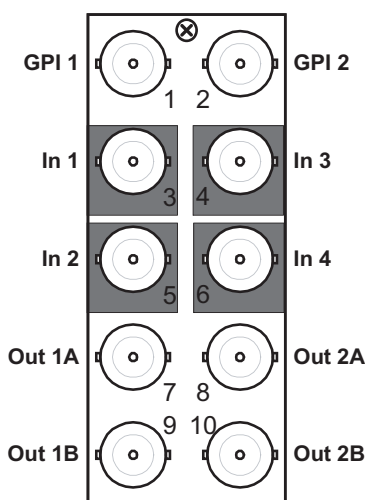

Figure 2.2 Cable Connections for the 8310AR-030 and 8320AR-030 Rear Modules
- **8310AR-030 Rear Module** — When using this module, connect the input and output cables according to **Figure 2.2**. The inputs are internally terminated in 75ohms. It is not necessary to terminate unused outputs.
- **8320AR-030 Full Rear Module** — Each rear module occupies two slots and accommodates one card. This rear module provides two GPI ports, four inputs, and four outputs. All connections use BNCs. (Figure 2.2)